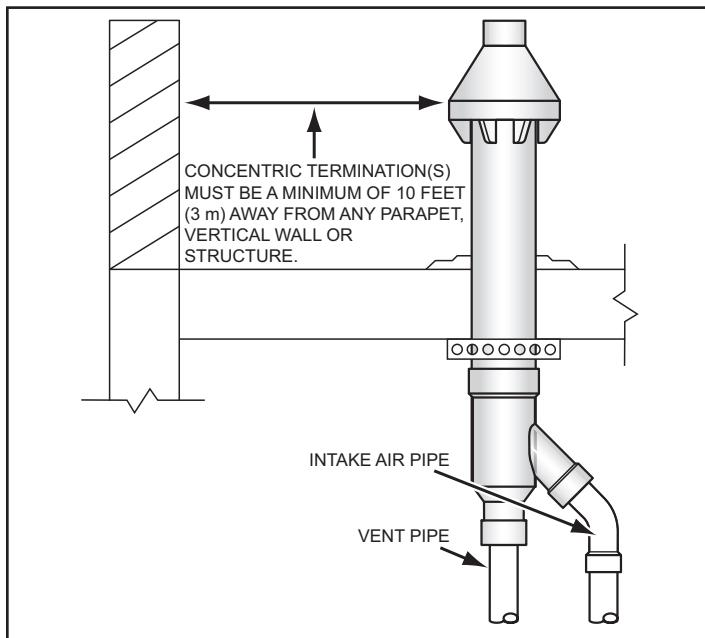
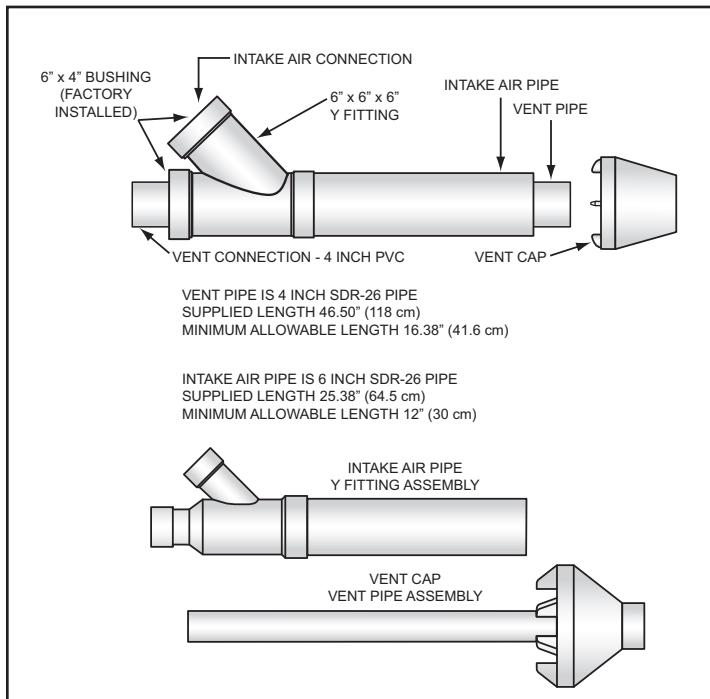
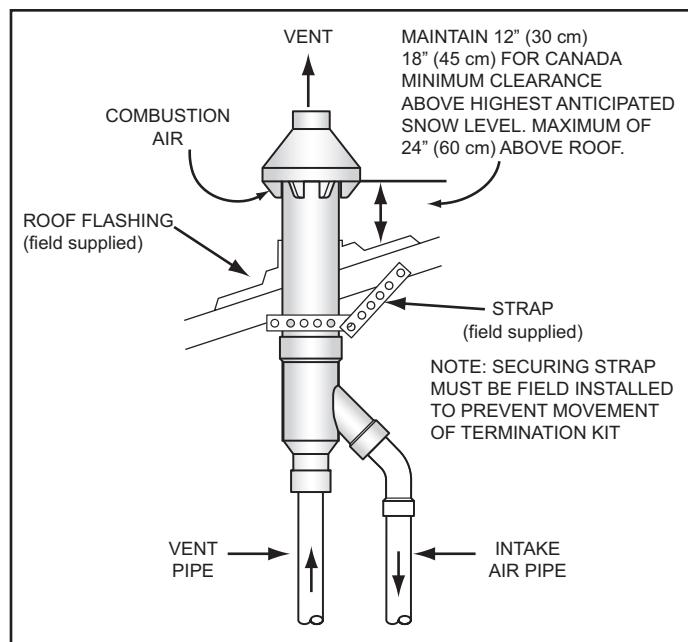
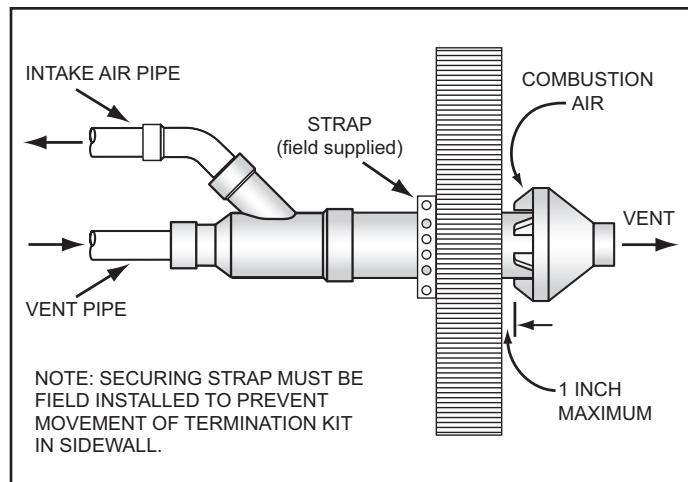

Figure 24. Six-inch Concentric Termination - Flat Roof Clearance
Figure 25. Six-Inch Concentric Termination Kit
Figure 26. Six-Inch Concentric Termination - Vertical Installation
Figure 27. Six-Inch Concentric Termination - Sidewall Installation
3. When installing a concentric termination vertically through the roof; ensure that all exterior vertical clearance requirements for the concentric termination, shown in *Figure 24* and *Figure 26* (page 34), are being maintained. These clearances and those cited by local and national codes must be maintained.
4. When installing a concentric termination vertically through a flat roof, the termination's vent cap must be a minimum of 10 feet (3 m) away from any parapet, vertical wall or structure as shown in *Figure 24*.
10. See *Figure 25* for the minimum lengths allowed for the 6 inch concentric termination.
1. Assemble and install the 6 inch concentric termination. See *Figure 25*, *Figure 26*, and *Figure 27* for these instructions: